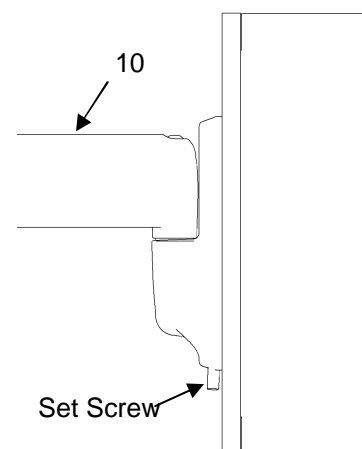

Figure 5. Tighten Set Screw
2. Using 5/32" hex wrench (170), secure mount to wall bracket by tightening set screw (see Figure 5). Ensure set screw engages back side of bracket to properly secure mount.